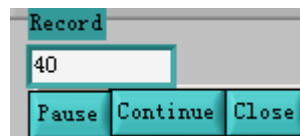

Fig 2-2
Record : Enable the “data transmission” function and select “Document” → “Record”. A prompt box shown in Fig 2-2 will pop up on the virtual display panel and recording of the virtual display waveform begins. The recording prompt box shows the current waveform recording progress. To pause recording, simply click the “pause” button. To resume, click the “continue” button and recording will resume from the point where it was paused.
- ◆ **Mathematics functions :** When this menu is clicked, a mathematics function dialog box will pop up to enable “mathematics selection” or “FFT mathematics”, as shown in Fig 2-2.